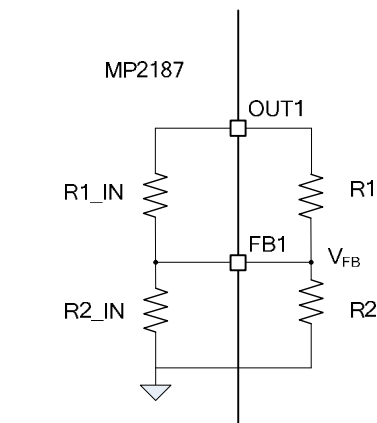

Figure 6 — Feedback network
6. The 1.1V output voltage can be changed by external FB divider resistors. Figure 6 shows the MP2187 feedback network.